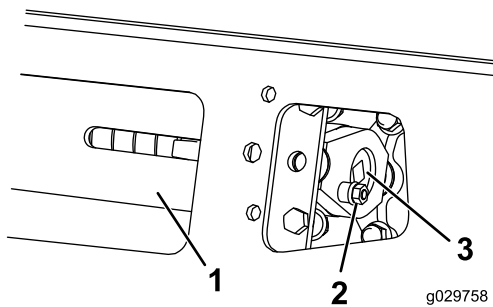
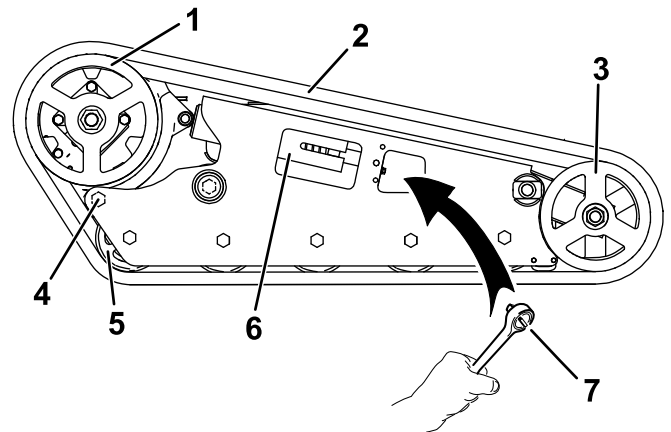

Figure 55
Figure 56
3. Remove the locking bolt and nut (Figure 55).
5. Align the closest notch in the tension screw to the locking-bolt hole and secure the screw with the locking bolt and nut (Figure 55).
3. Using a 1/2-inch drive socket, release the drive tension by turning the tensioning screw clockwise (Figure 55 and Figure 56).
4. Loosen the rear bolt, near the drive wheel (Figure 56).
6. When the track is off the front wheel, remove it from the drive sprocket and road wheels (Figure 56).
7. Beginning at the drive sprocket, coil the new track around the sprocket, ensuring that the lugs on the track fit between the spacers on the sprocket (Figure 56).
8. Push the track under and between the road wheels (Figure 56).